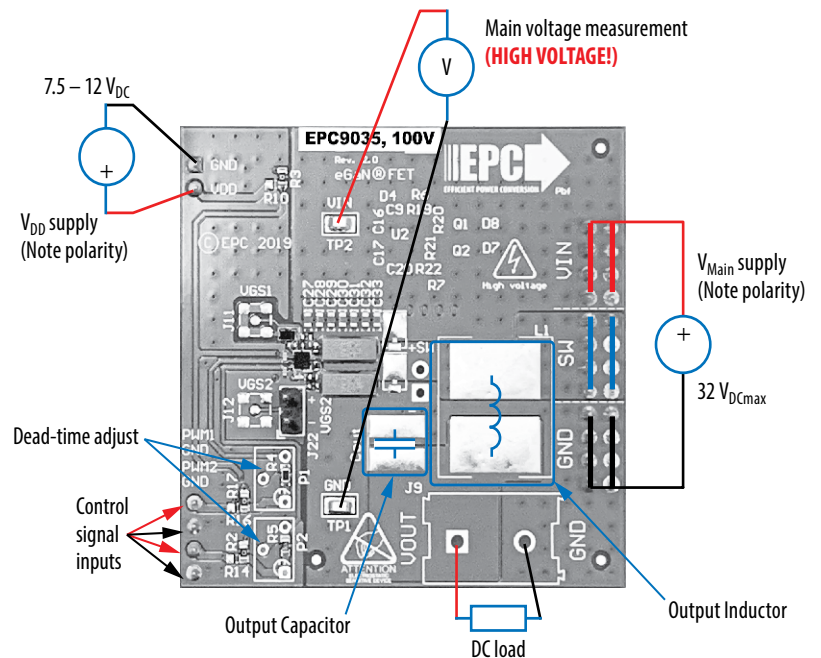
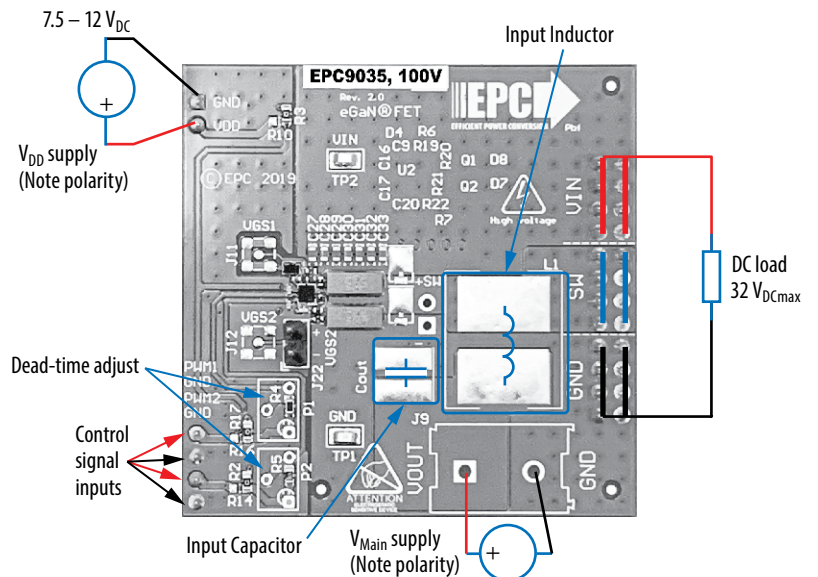

Figure 2: Buck configuration
Figure 3: Boost configuration
The half bridge development board EPC9035 is easy to set up as buck or boost converter. Refer to figure 2 for buck converter configuration and measurement setup, and figure 3 for boost converter setup, and follow the procedure below:
2. With power off, connect the switch node (SW) of the half bridge to your circuit as required (half bridge configuration). Or use the provided pads for inductor (L_1) and output capacitors (C_{out}), as shown in figure 2 with a DC load connected across V_{OUT} and GND.
1. The inductor (L_1) and input capacitors (labeled as C_{out}) can either be soldered onto the board, as shown in figure 3, or provided off board. Anti-parallel diodes can also be installed using the additional pads on the right side of the EPC2022 FETs.